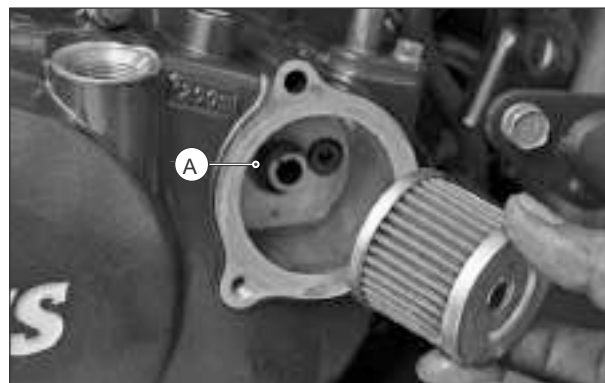

Fig. 2.32
- Remove the filter complete engine oil and 'O' ring (A). (Fig. 2.32)